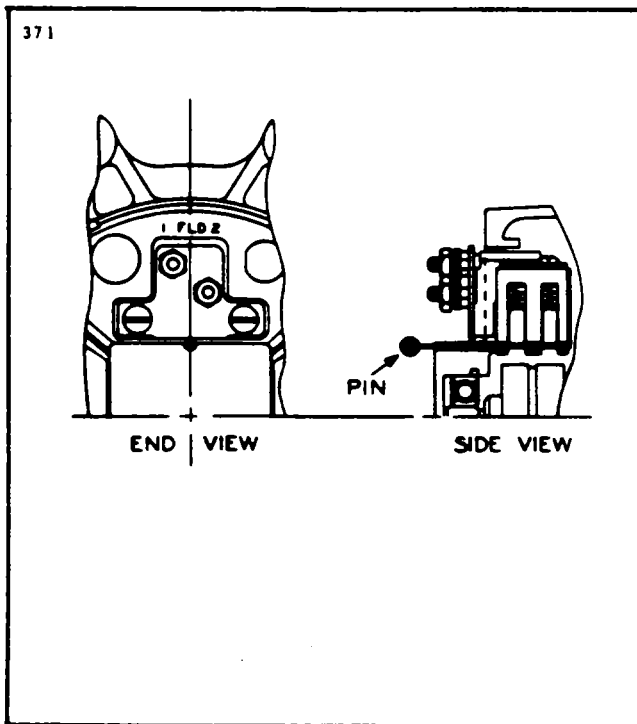

Figure 24-14. Brush Installation
3. Brushes: These units have a separate brush holder assembly that is installed after the alternator has been assembled. The brush holder has a small hole that intersects the brush cavities. Use a pin or a piece of wire, as shown in Figure 24-14, to hold the brushes in the holder during assembly. Remove the pin after the brush holder retaining screws have been tightened. Make a continuity check to be sure the brushes are seated against the slip rings.